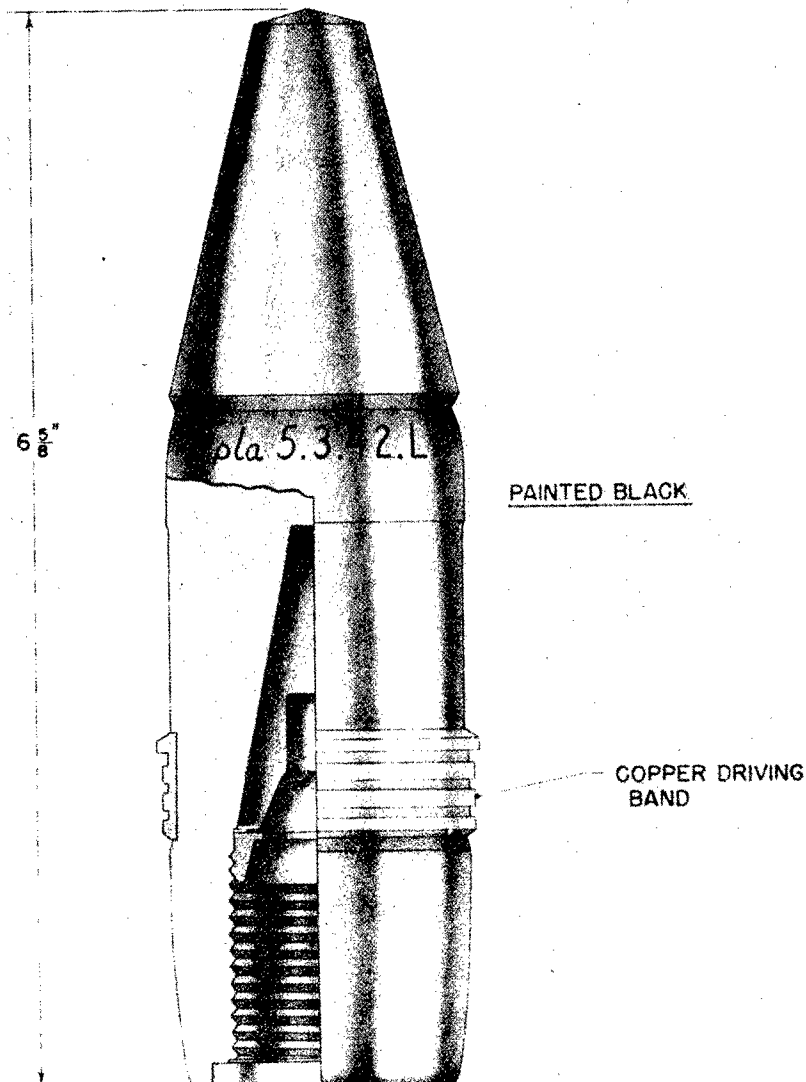

Figure 365—A. P. C. Projectile Type 36 (Czech. Design), 47-mm,
4.7-cm Pzgr. Patr. 36 (t) (Panzergranate Patronen 36 [t]). (See fig. 365.)